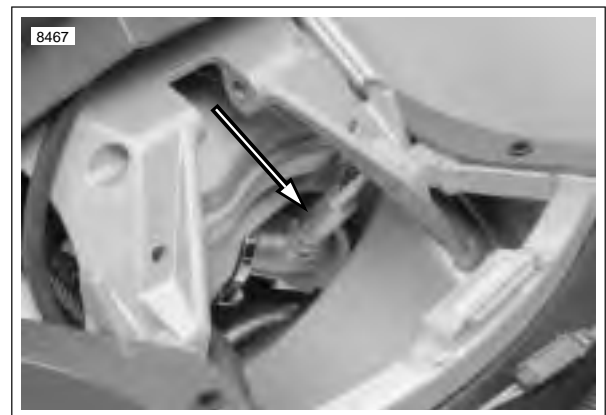

Figure 4-36. Oxygen Sensor (shock absorber removed)
- **Loose O2 sensor.** See Figure 4-36. If the O2 sensor is loose engine performance may be affected. This could also show up as a slow changing O2 sensor voltage.